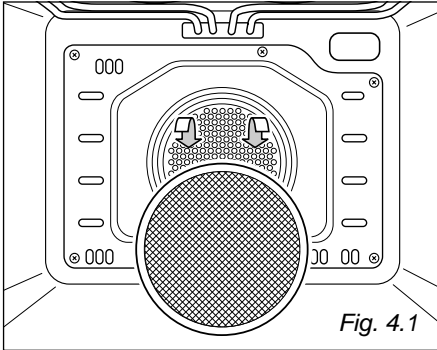

Fig. 4.1
- Slide in the grease filter on the back of the oven as in fig. 4.1.
The grease filter can be removed for cleaning and should be washed regularly in hot soapy water (fig. 4.1).